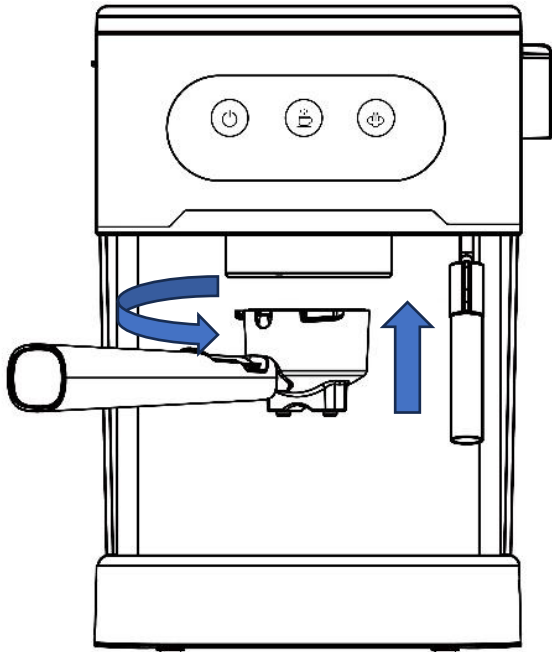

Fig. 3
1. Lift the **Water Tank Lid** (8) and fill the **Water Tank** (9) with water up to the MAX line, install the **Coffee Filter** (15) into the **Coffee Filter Holder** (14) by aligning the notch on the **Coffee Filter** (15) with the groove on the **Coffee Filter Holder** (14). **NB Do not** put any coffee in the coffee filter at this stage.
2. Rotate the **Coffee Filter** (15) to the left or right to lock it in place:
3. Place one hand on the top of the espresso maker to support the unit and attach the **Coffee Filter Holder** (14) using the **Filter Holder Handle** (10) by holding the handle and placing it in the coffee maker as in fig.3 then rotate right to the locked position  as shown below in fig.4: